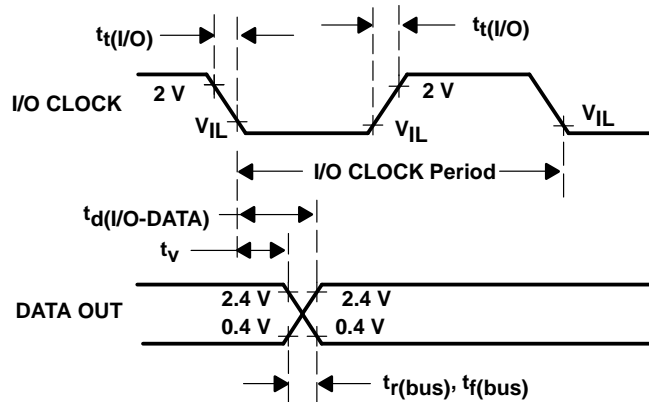

Figure 6. DATA OUT and I/O CLOCK Voltage Waveforms
- I/O CLOCK period =  $1/(\text{I/O CLOCK frequency})$  (see Figure 6).